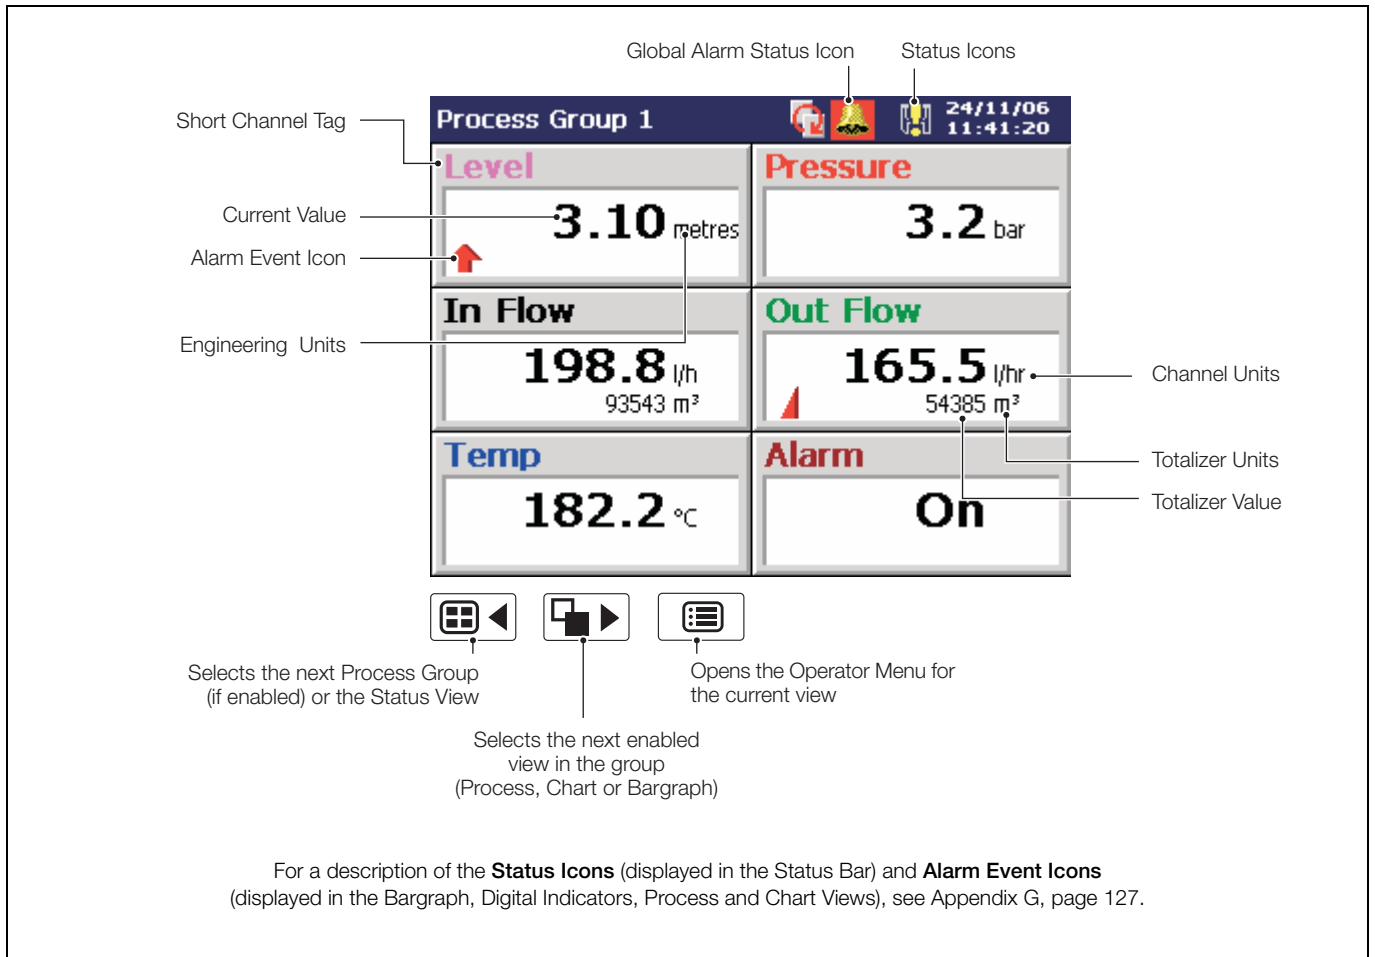

Fig. 2.6 Digital Indicator View
2.5 Digital Indicator View – Fig. 2.6
**Note.** Active unacknowledged alarms in the current process group are identified by a flashing red Alarm Event icon in the bottom left hand corner of the associated indicator. Active acknowledged alarms are identified by a continuous red Alarm Event icon in the bottom left hand corner of the indicator – see Fig. 2.6, page 17.